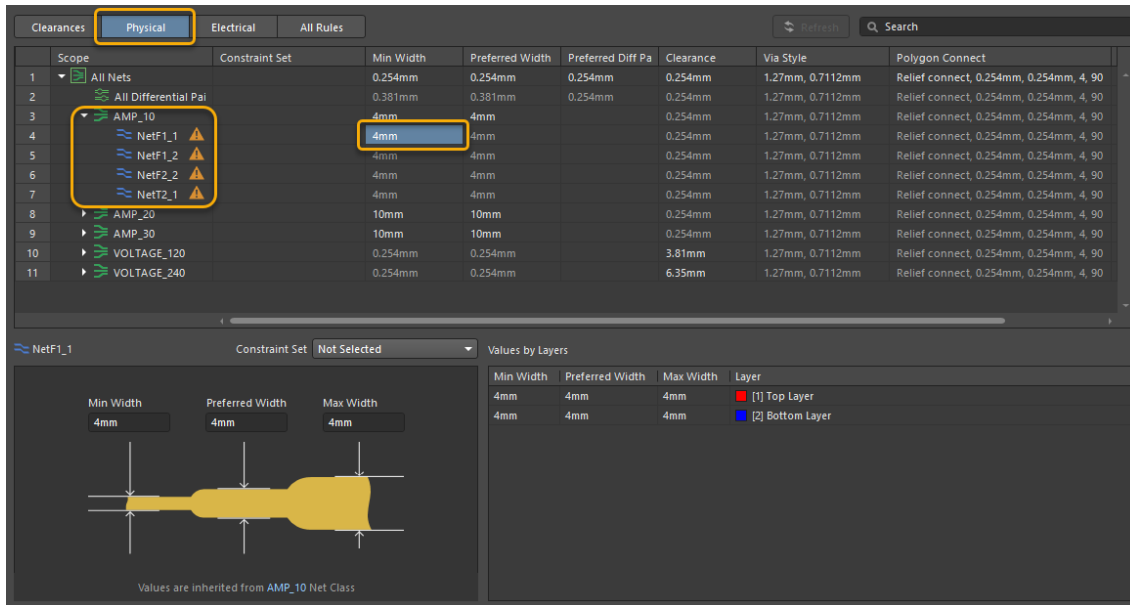

Figure 20. Constraint manager from PCB with Class and Rule definitions
66. Open the Constraint Manager, **Design » Constraint Manager**, Figure 20.